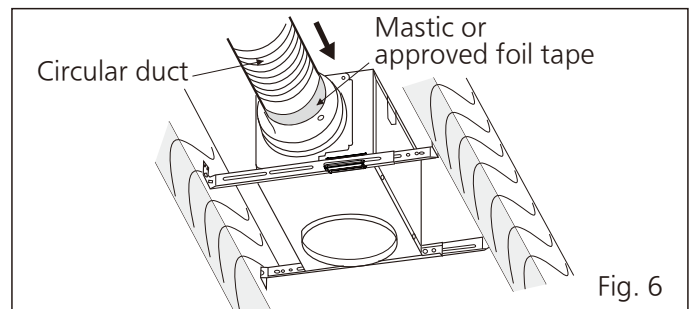

Fig. 6
- Install a circular duct and secure it with clamps or wire ties, and seal it with mastic or approved foil tape. A 4 or 6-inch circular duct is needed to connect to the relevant part of adaptor. (Fig. 6)